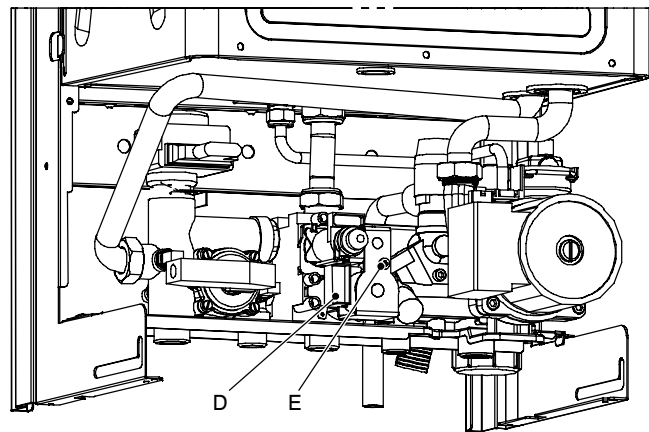

Fig. 48
- 2 Disconnect the connector *D* (Fig. 48).